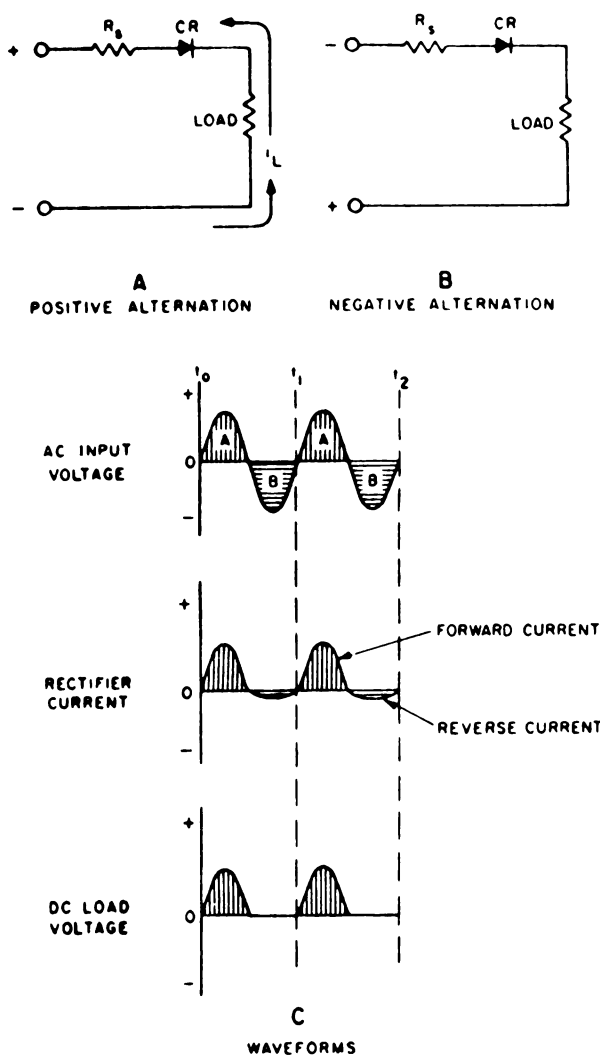

Figure 2-6. Typical half-wave rectifier circuit operation and waveforms.
The operation of the half-wave rectifier circuit can be understood from the simplified circuits shown in parts A and B of figure 2-6 and the waveforms shown in part C of the figure.
their path is from the lower (negative) input terminal, through the load, through the rectifier CR, and to the upper (positive) input terminal. Thus, during the initial half-cycle, rectifier CR passes maximum current in the forward direction, and an output voltage is developed across the load resistance. In other words, when the rectifier conducts, electrons pass through the load to develop a corresponding output-voltage pulse, as shown in part C of figure 2-6.
**Filters.** You will notice from the illustrations shown in figures 2-6 and 2-8 that the output voltages from the types of rectifiers mentioned are pulsating DC voltages. To minimize the distortion that variations in voltages cause, practically all rectifiers are followed by a filter circuit.